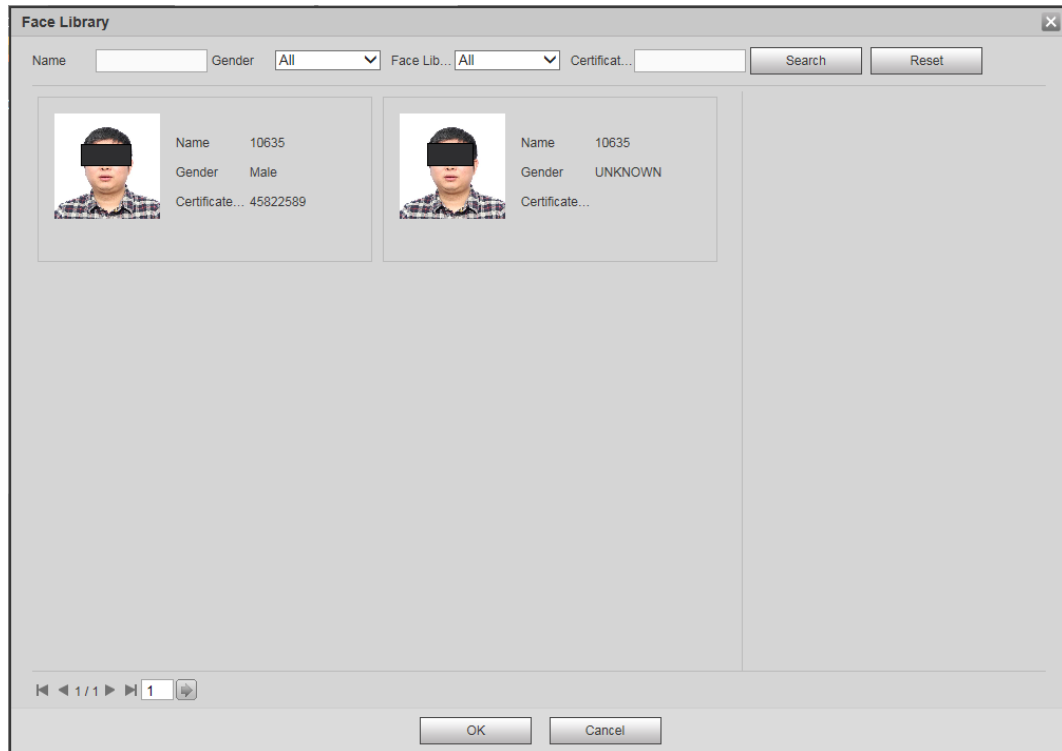

Figure 5-188
3. Click Search and the results are displayed. See Figure 5-188.